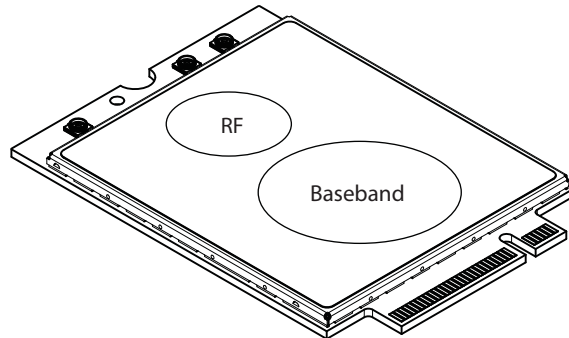

Figure 7-4: Shield locations
Specific areas requiring heat dissipation are shown in Figure 7-4:
- Monitor temperature at all shield locations. Attach thermocouples to the areas indicated in Figure 7-4 on page 62 (RF, Baseband).